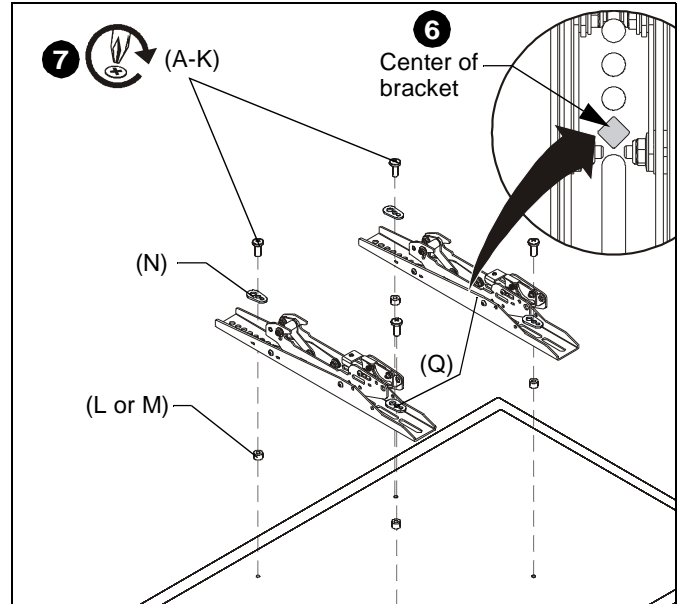

Figure 10
3. Select screw *diameter* by examining hardware (A-K) and comparing with mounting holes on display. (See Figure 10)
- Spacers are **NOT** required if mounting holes are not recessed and interface brackets (Q) can lay flat against display.
- Spacers (L or M) **ARE** required if mounting holes are recessed, or if protrusions prevent interface brackets (Q) from laying flat.
5. Select screw *length*: (See Figure 10)
- By hand, insert **SHORTEST** length screw of selected diameter (A, D, G or I) through universal washer (N - if required), bracket (Q), selected spacer (L or M-if required), into display mounting hole. Do **NOT** thread screw into hole at this time.
6. Align the center of the interface brackets (Q) with center of screen. (See Figure 10)
7. Use selected screws (A-K), universal washers (N-if required) and spacers (L or M-if required), to connect interface brackets (Q) to back of display. (See Figure 10)